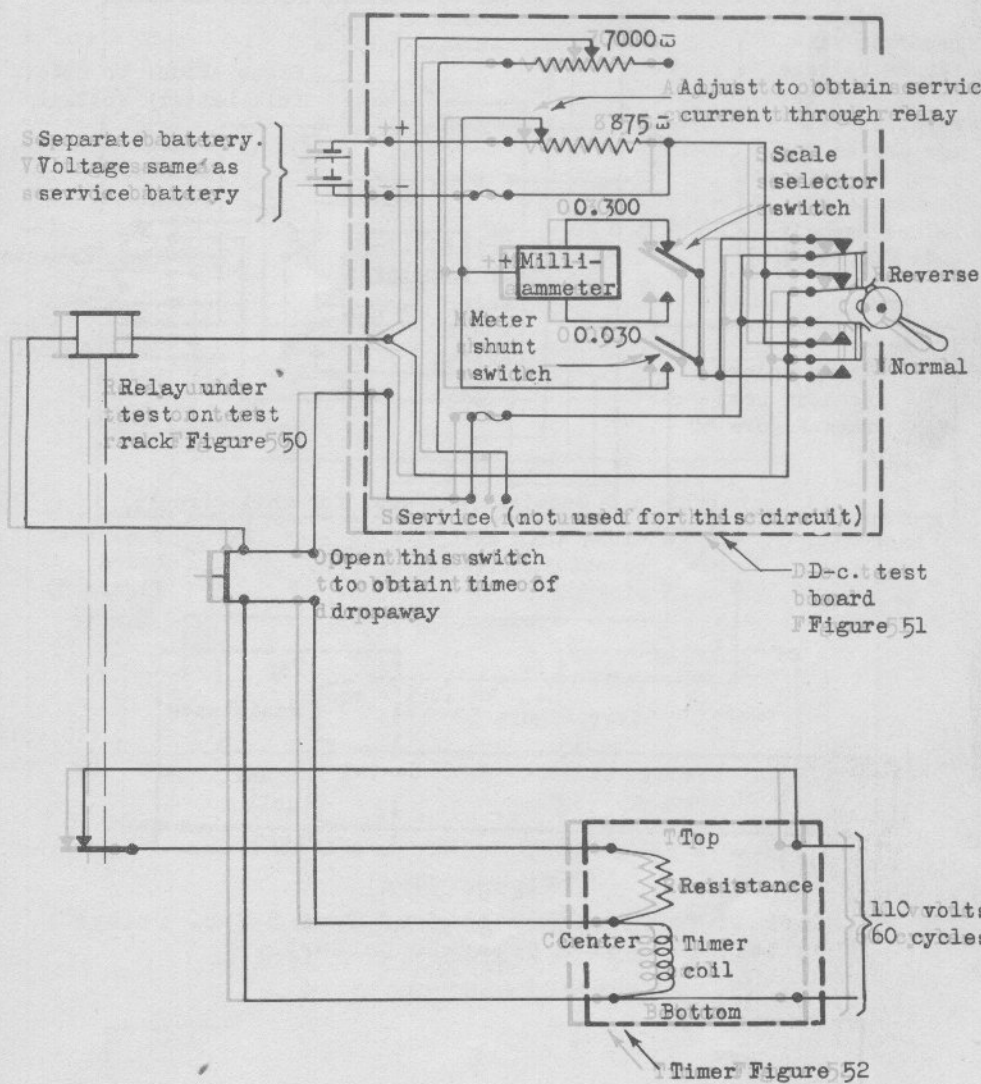

Figure 53
- (a) With relay on test rack and with a separate battery, use Figure 53.